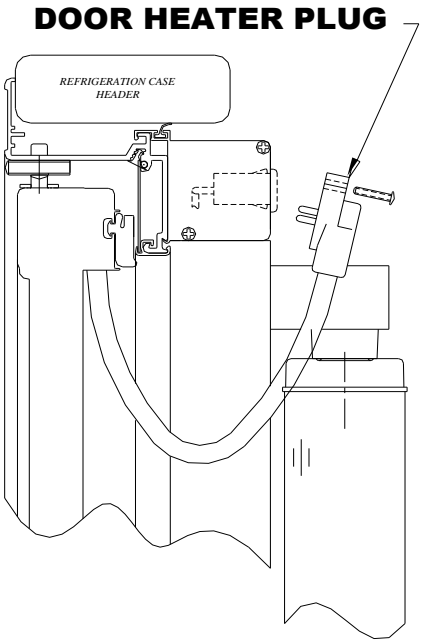

FIGURE 3.
- Plug cord into receptacle on the inside top of frame. (Figure 3)